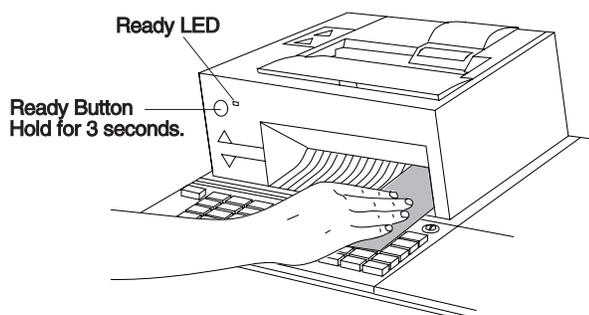

Figure 6-4. Printer Buttons
3. With the check face down and against the right side frame, push the check inward until it is stopped. The green Ready indicator should come ON. See Figure 6-4.